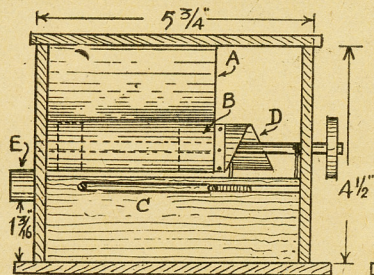

Fig. 1—A cross section of the box
**T**HIS novel gadget holds a number of cigarettes and ejects them like shells from a gun, one at a time on turning the knob. A side and end view of the interior mechanism is shown in Figs. 1 and 2, side and end elevations respectively. This is how it works.
Make the sides and ends of the case from  $\frac{1}{4}$  in. fretwood to dimensions given in Figs 1 and 2. Having cut the parts to size, place the ends together and bore a  $\frac{1}{4}$  in. hole for the carrier spindle through both.